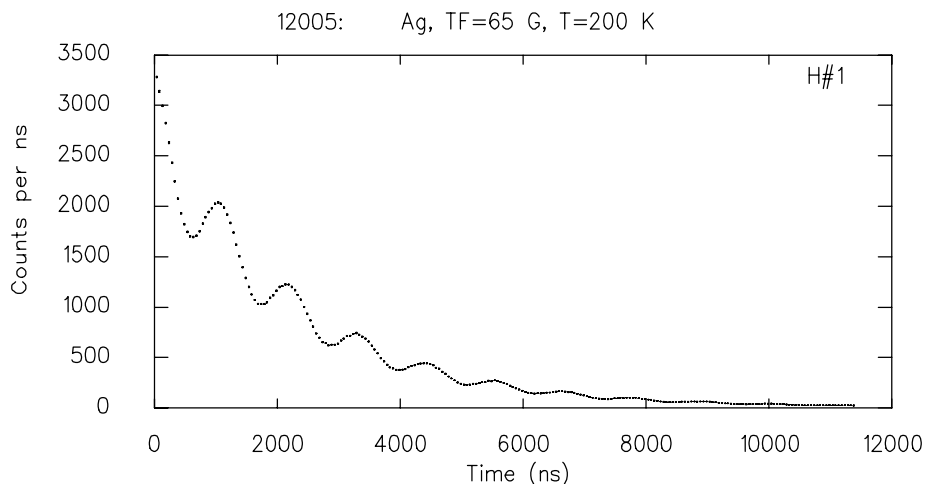

Figure 4.4: Output of the RAW macro. Also, the data can be displayed as a function of bin number instead of time.
**RAW** This command will display the raw histogram data displayed as a function of *bin number*  $[N(i)]$  or as a function of *time* (ns)  $[N(t)]$ , Fig. 4.4.